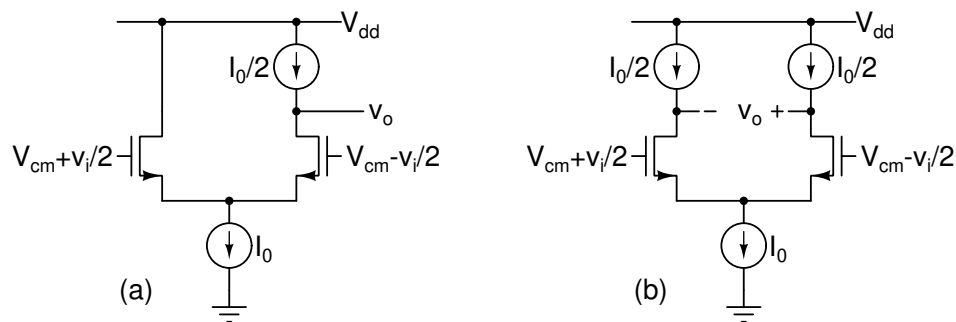

Figure 1.1: Problem 1.1.
- 1.1. Determine v_o/v_i in Fig. 1.1(a) and (b). Model the MOS transistors using their g_m and g_{ds} . Explain the results very briefly.